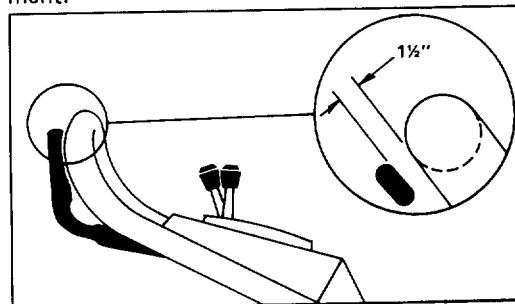

Figure 19
3. Lift control bar until some resistance is felt. Control bar should be 1½" from handle when properly adjusted (Fig. 19).